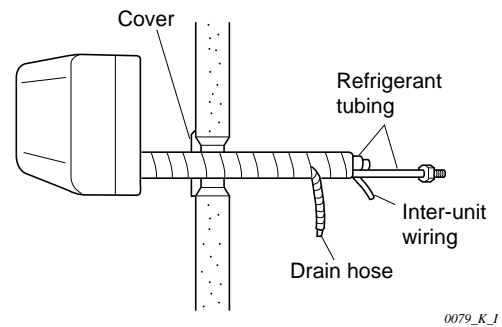
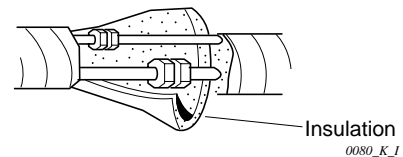

Fig. 3-59 0079_K_I
Fig. 3-60 0080_K_I
- (1) Shape the refrigerant tubing so that it can easily go into the wall hole. (Fig. 3-59)
- (2) Push the wiring, refrigerant tubing and drain hose through the hole in the wall. Adjust the indoor unit so it is securely seated on the rear panel.
- (3) Carefully bend the tubing (if necessary) to run along the wall in the direction of the outdoor unit and then tape as far as the fittings. The drain hose should come straight down the wall to a point where water runoff won't stain the wall.
- (4) Connect the refrigerant tubing to the outdoor unit. (After performing a leak test on the connecting part, insulate it with the tubing insulation. (Fig. 3-60)) Also, refer to section 8-3. Connecting Tubing between Indoor and Outdoor Units.